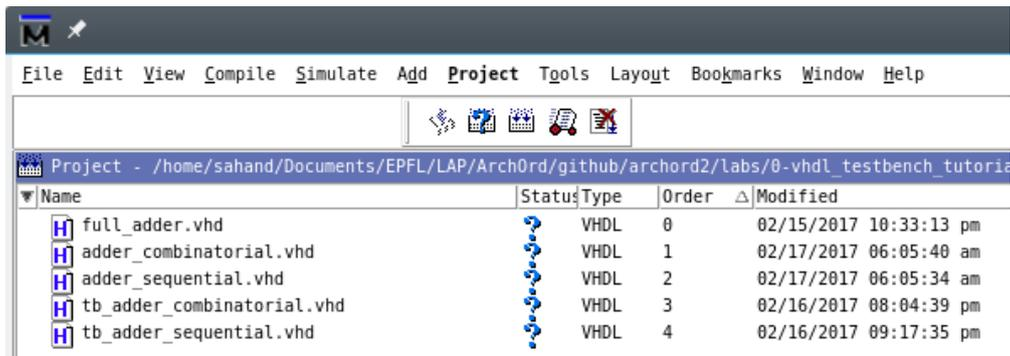
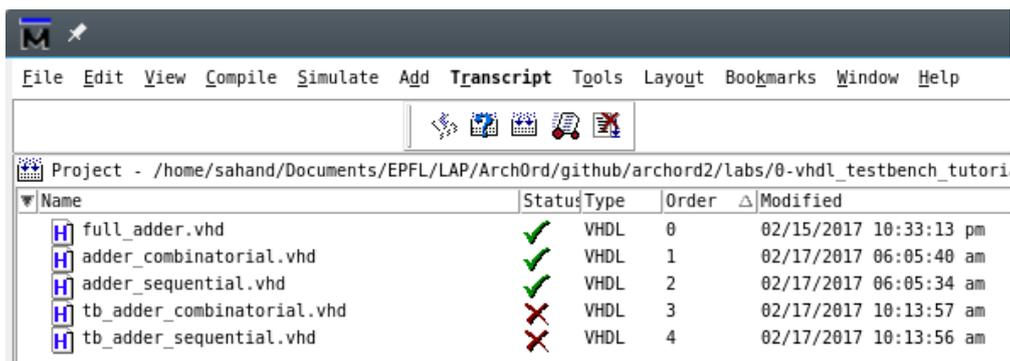

Figure 4: Files added to project
Figure 5: Compiling all files (empty testbenches)
3. Click on the `Add Existing File` button and add all files in the **vhdl** and **testbench** directories to the project (Figure 3b). You should obtain something similar to Figure 4.
- Click on the  icon to compile all sources. The RTL files will compile successfully, but the testbenches will fail to compile (Figure 5). This is normal as the testbench files are empty, so ModelSim does not detect any entity to compile. If your output is not as in Figure 5, then it means you have added the various VHDL files in a different order from that shown in Figure 4 ("Order" column). You can solve this issue by clicking a few more times on the  icon until ModelSim correctly determines the right compile order of the VHDL files based on their dependencies.